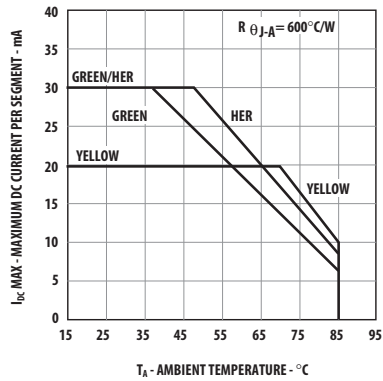

Figure 9. Maximum Allowable DC Current vs. Ambient Temperature.  $T_{JMAX} = 100^{\circ}C$ .
6. Derate maximum DC current for HER above  $T_A = 48^\circ\text{C}$  at 0.58 mA/°C, Yellow above  $T_A = 70^\circ\text{C}$  at 0.66 mA/°C, and Green above  $T_A = 37^\circ\text{C}$  at 0.48 mA/°C. See Figure 9.